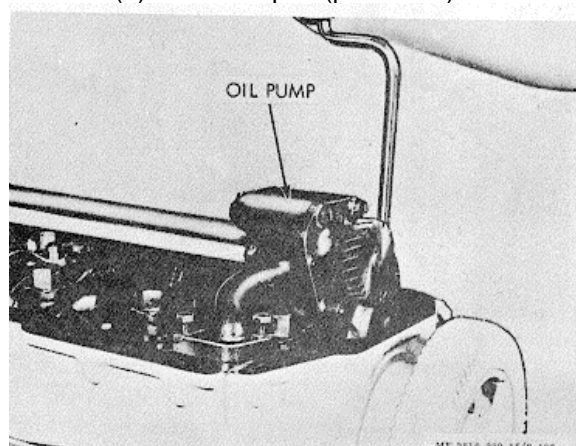

Figure 3-174. Oil pump capscrews removal.
(1) Remove oil pan (para 3-35).
(2) Remove capscrews and lockplates securing oil pump, figure 3-174, and suction tube strap to block.
(3) Lift pump and tube assembly from block.